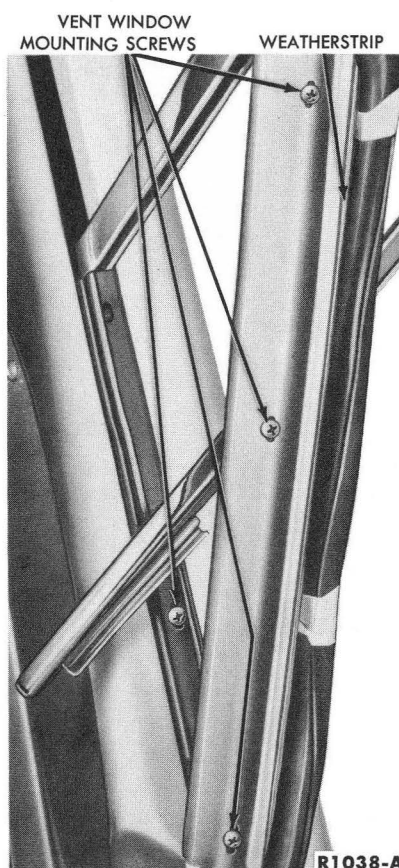

FIG. 2—Vent Window Installed
2. The door frame mounting holes (Fig. 2) are elongated to provide a tight fit for the vent window frame in the door frame.
4. Remove the vent window frame mounting screw from the belt line of the door (Fig. 2).